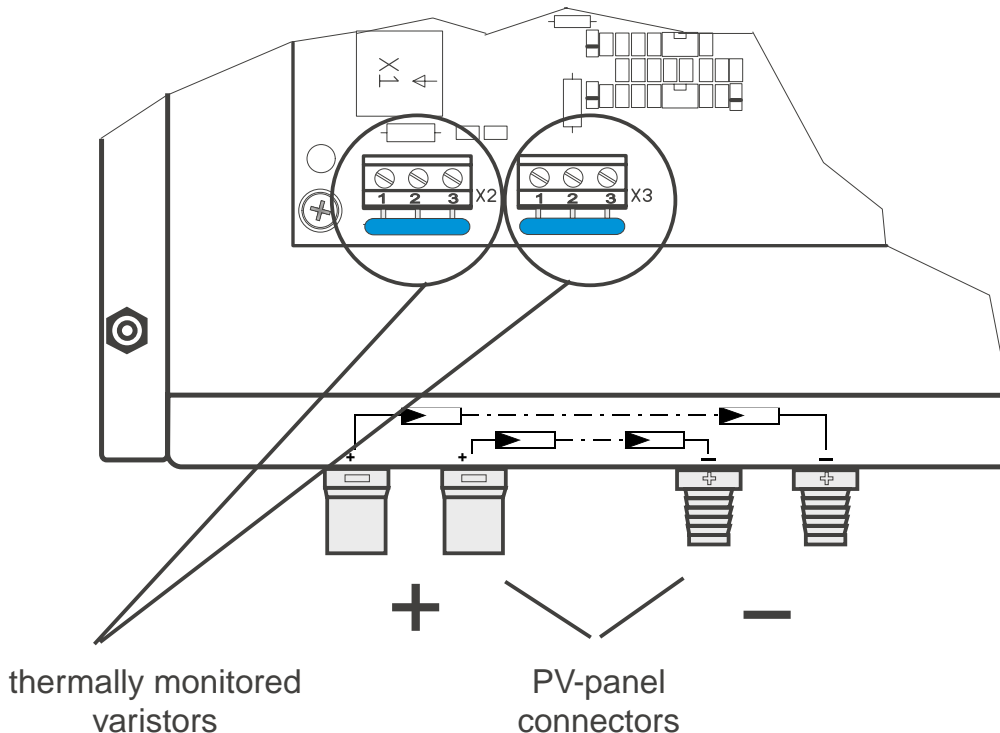

Fig. 5.2: Thermally monitored varistors
- Remove the two internal thermally monitored varistors (Fig. 5.2) with an appropriate screwdriver.
- Short circuit the connectors 2 and 3 in the connector blocks X2 and X3 (see Fig. 5.2).